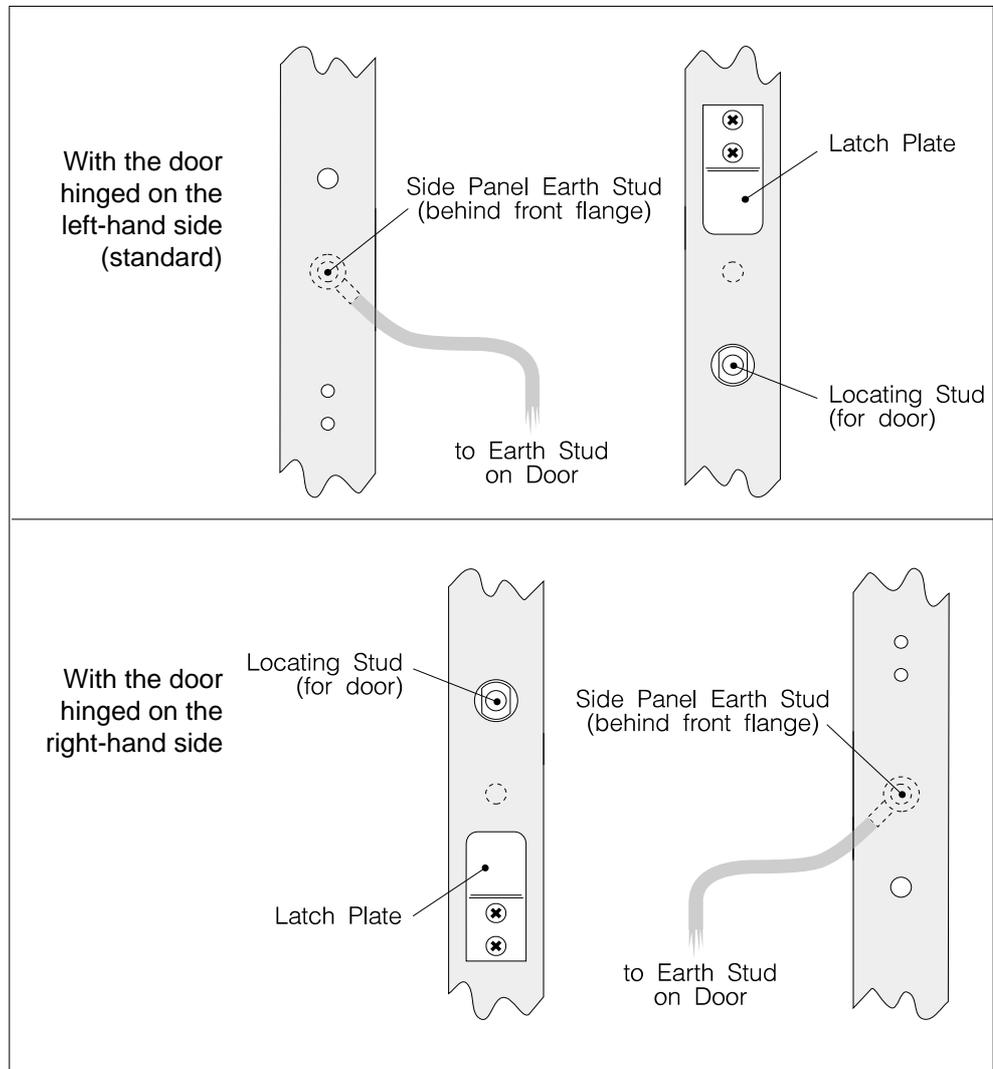

Fig.2-5: Latch plate, locating stud and earth wire.
7. Transfer the latch plate and locating stud to the opposite side of the cabinet, noting that the latch plate is inverted (see Fig.2-5).